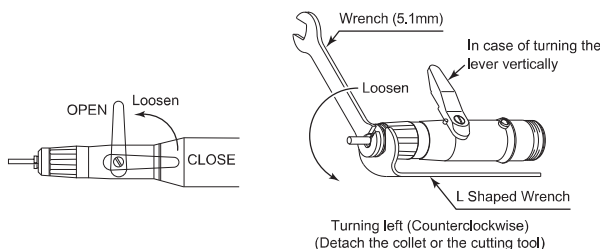

Fig. 4
- Do not rotate the motor when replacing the cutting tools (when turning the lever vertically toward a arrow in Fig. 4). This will cause damage to the motor or the Attachment.
- Turning the lever vertically toward a arrow in Fig. 4 (counterclockwise) to loosen the collet, the cutting tools can be replaced.
The lever is OPEN position (Fig. 4).	Turn the lever position to CLOSE (Fig. 4).